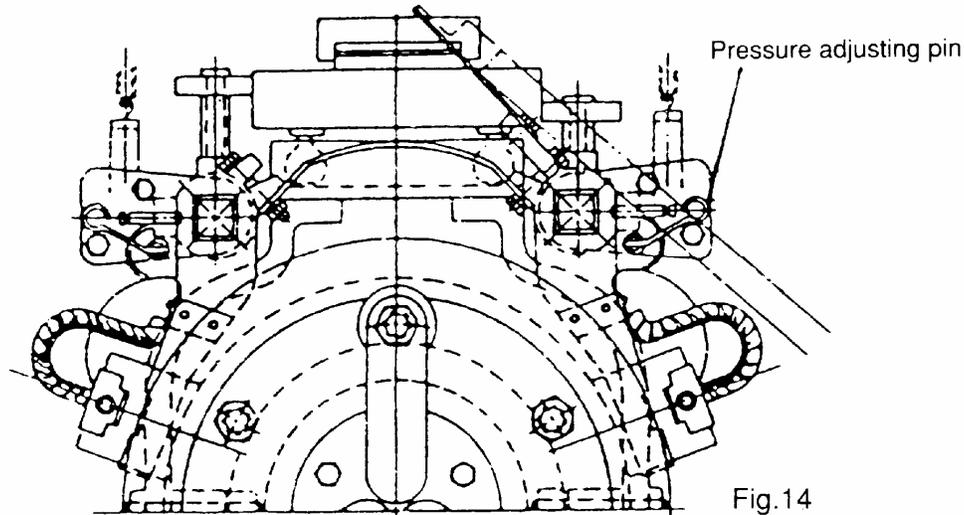

Fig.14
- The brush pressure may be reduced after use, so it is necessary to re-adjust. For adjustment, please turn adjusting screw, pressure adjusting pin or pressure adjusting plate as shown in Fig. 14 to obtain the correct tension (=0.23 x brush cross sectional area in cm²) ±10% kg.